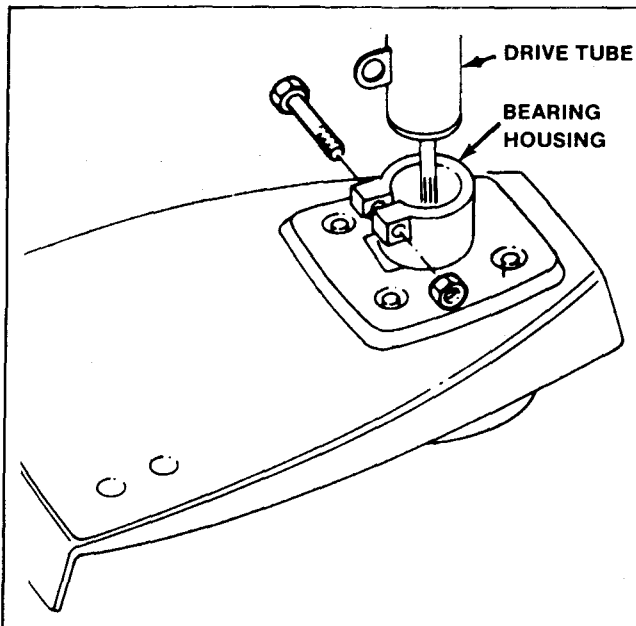

Figure 108
4. Remove the machine screw and nylon locknut that secures the bearing housing to the drive shaft. See Fig. 108.